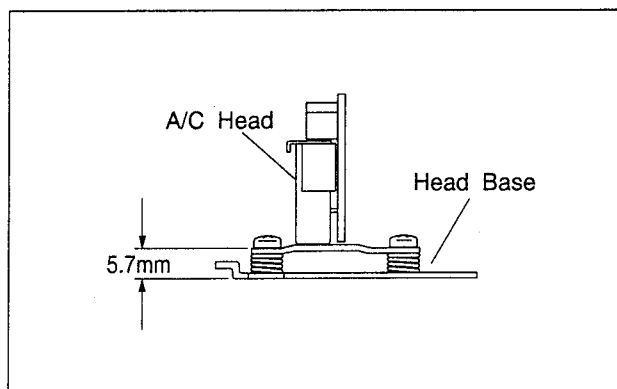

Fig.2-5-4
- (1) Temporarily set the A/C head height as indicated in Fig. 2-5-4.